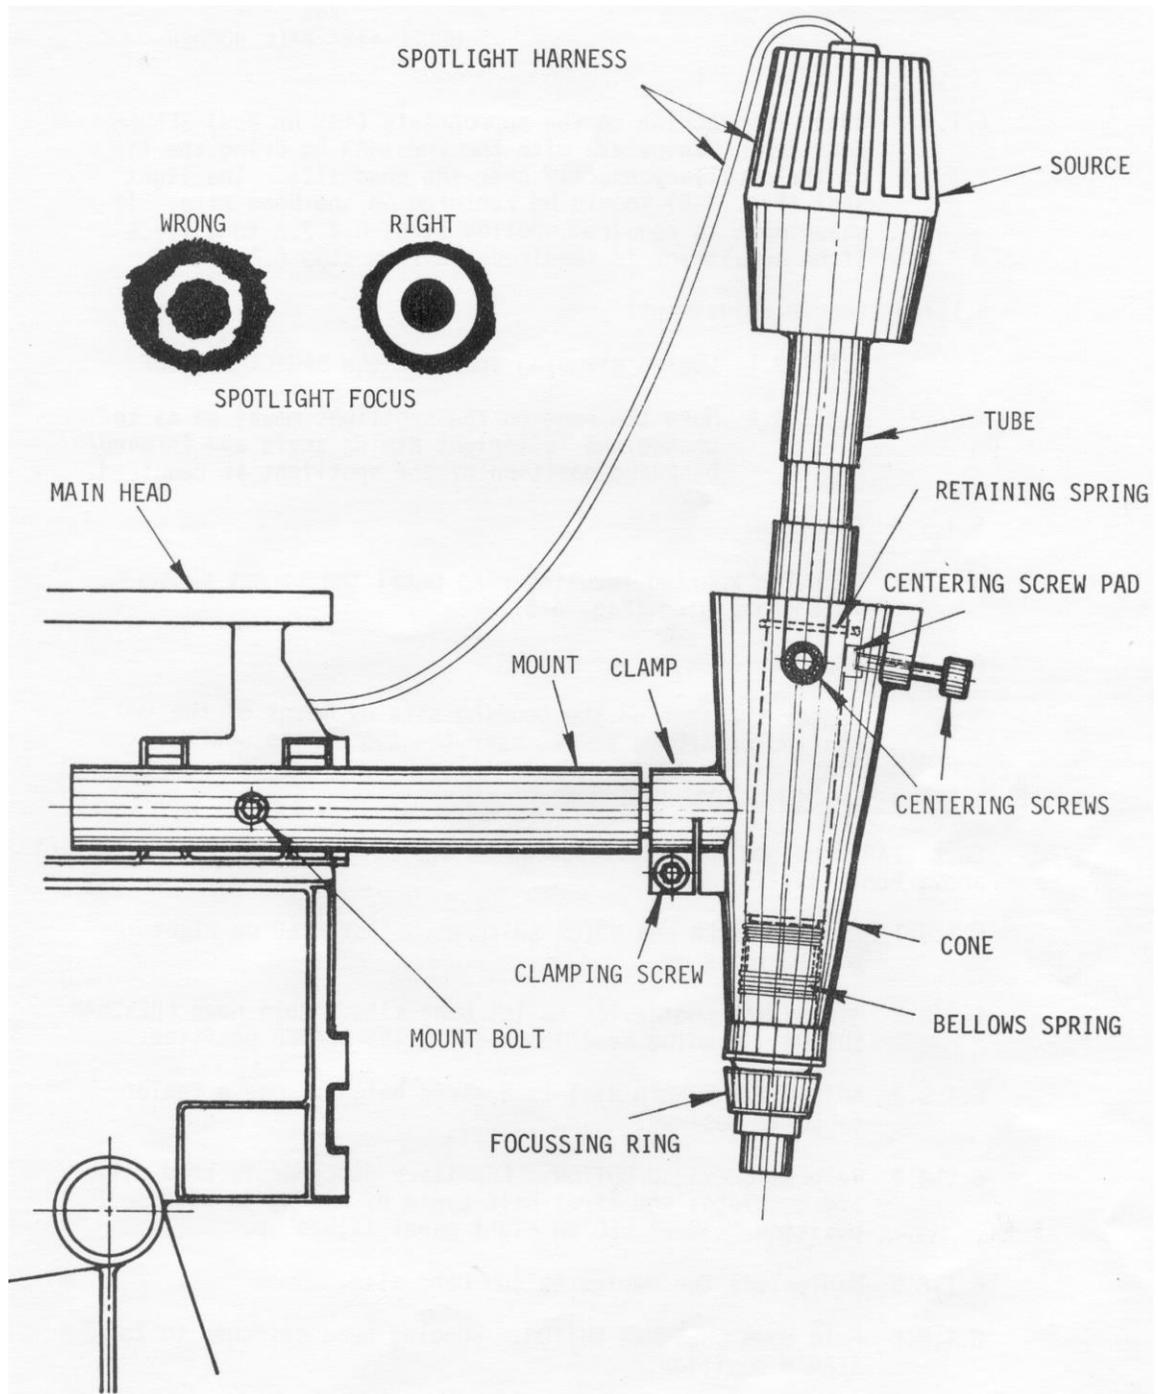

FIGURE 6-5 SPOTLIGHT MOUNTING AND ADJUSTMENT
- 6.1.7.2 Bring the machine to the appropriate (1st or 2nd) SEARCH position. Manipulate with the CHESSMAN to bring the tip of the capillary exactly over the bond site. The light spot (Fig 6-5) should be centered on the bond site. If adjustment is required, follow steps 6.1.7.3 to 6.1.7.5. If no adjustment is required, perform step 6.1.7.4.
- Turn the knurled focusing ring until the target pattern is a sharp ring (Fig 6-5).